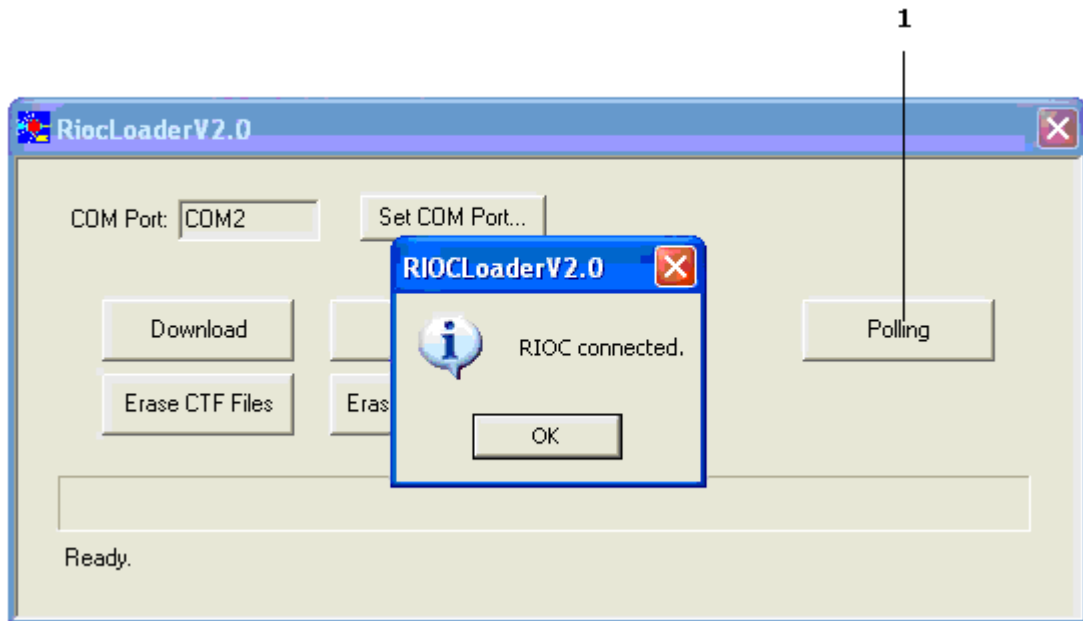

Figure 2
- (9) Select the Polling button (Ref. Fig 2, Item 1).
- (10) Make sure that the “RIOCI connected” message is shown on the RIOCI Loader V2.0 dialog box (Ref. Fig 2), then click OK.